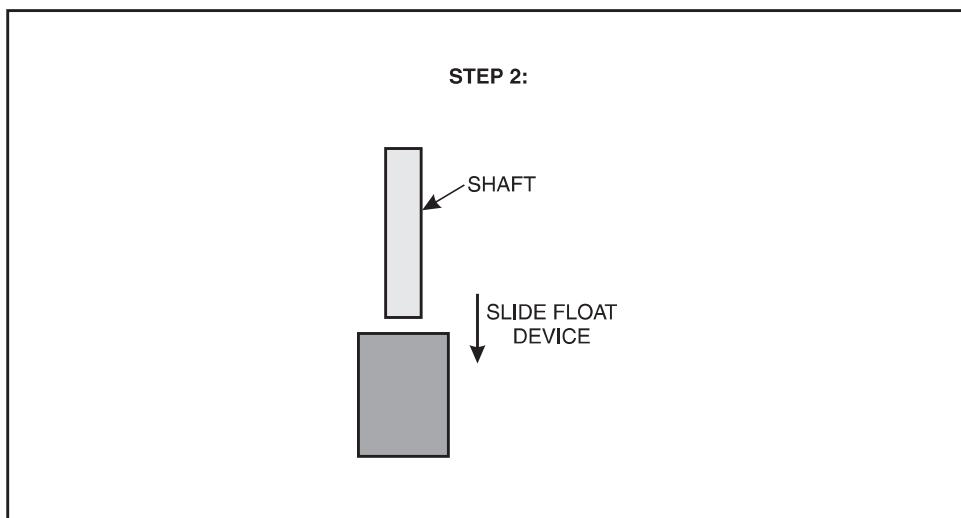

Figure 1-7. Remove Float Device
B. Slide the float device off the shaft, as shown in figure 1-7.